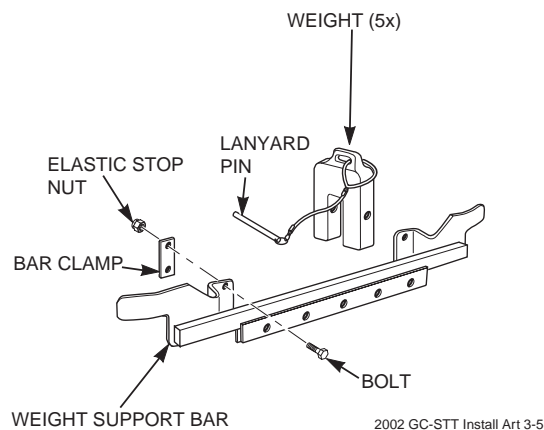

FIGURE 3-6
17. Install the weight support bar to the front of the machine by resting it directly on top of the caster support arms and sliding it tight against the frame of the machine. Secure the weight bar to the machine using (2) bar clamps, (4) 3/8-16 x 1-1/2" bolts and (4) 3/8-16 elastic stop nuts. See Figure 3-6.
18. Install the weight assemblies to the weight support bar and secure them to the bar using the 1/2"x 6-1/4" pin and lanyard. See Figure 3-6.